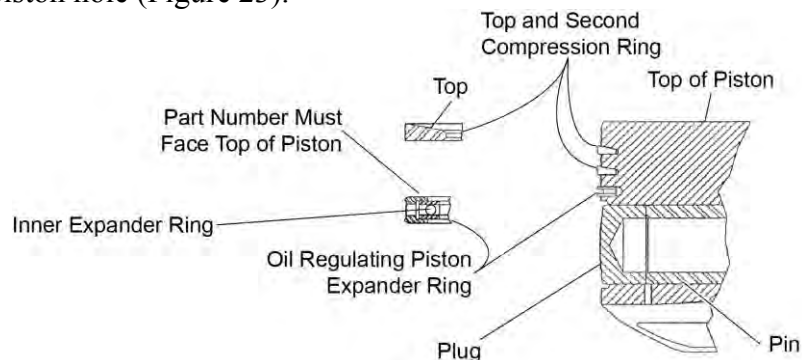

Figure 23
- A. Start from the top down, use the commercially available piston ring expander tool to remove the two top compression rings, the oil regulating piston expander ring, and the inner expander ring (Figure 23).
- C. With the piston top side up on a workbench, install the inner expander ring in the first groove above the piston hole (Figure 23).
- E. Install the two top compression rings (Figure 23) with the word "Top" toward the top of the piston in the remaining top grooves.